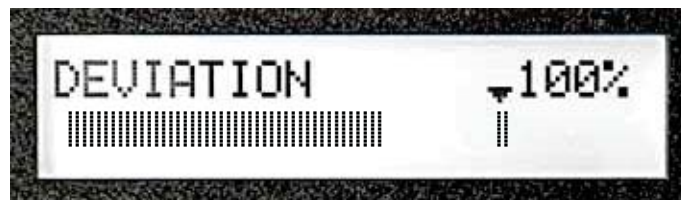

Figure 3-13. Press the FUNCTION Key to read Deviation
- A final pressing of the FUNCTION key will produce a screen showing deviation (see Figure 3-13).